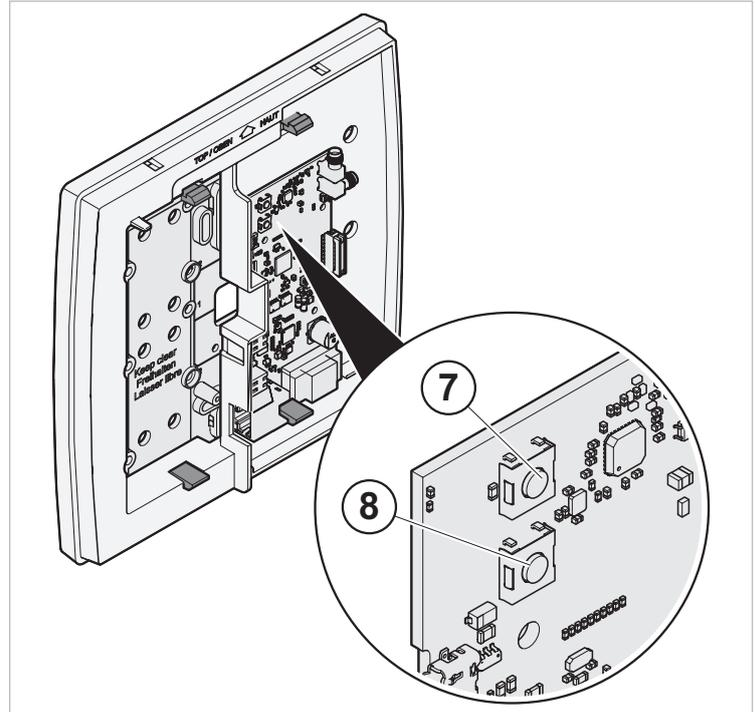

Fig. 3 Buttons on the RF reader
- to enter the test mode (7, Fig. 3)
- to press the reset button (8, Fig. 3)